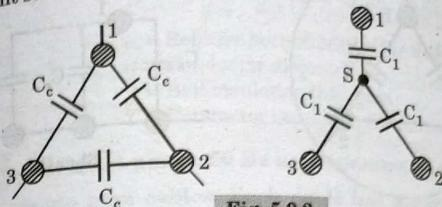

Fig. 5.9.2.
4. The core to core capacitances  $C_c$  are in delta and can be presented in the equivalent star as shown in the Fig. 5.9.2.